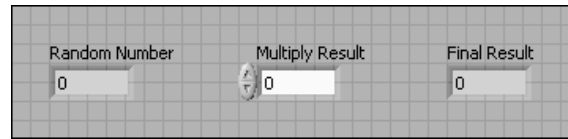

Figure 1.32
1. Select File>>Open and navigate to C:\Exercises\LabVIEW Basics I to open the Debug Exercise (Main) VI. The front panel shown in Figure 1.32 appears.